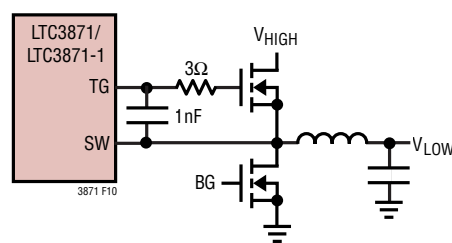

Figure 10. Filter for TG Traces > 25mm
- The TG traces from the controller IC to the gate of the external MOSFET should be kept as short as possible to minimize the parasitic inductance. This inductance can cause voltage spikes that can potentially exceed the ABS Max rating of the drivers and damage them. A 3 Ω resistor and 1nF capacitor can be used to filter these spikes as shown in Figure 10. When using the 9V/10V DRV_{SET} settings, or if the TG traces are longer than 25mm, this filter network must be used on both TG1 and TG2. The 1nF capacitor should be placed as close to the TG/SW pins as possible.